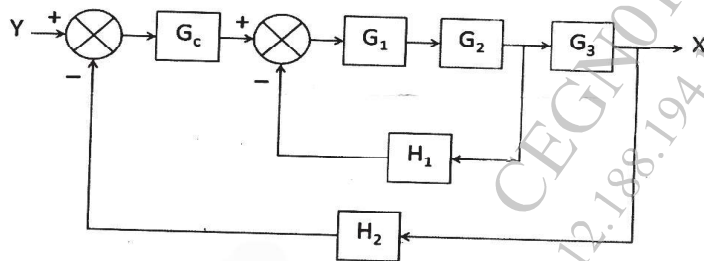

Figure 1
- Q4)** a) Reduce the block diagram in Figure 1 and determine the transfer function: X/Y. [8]